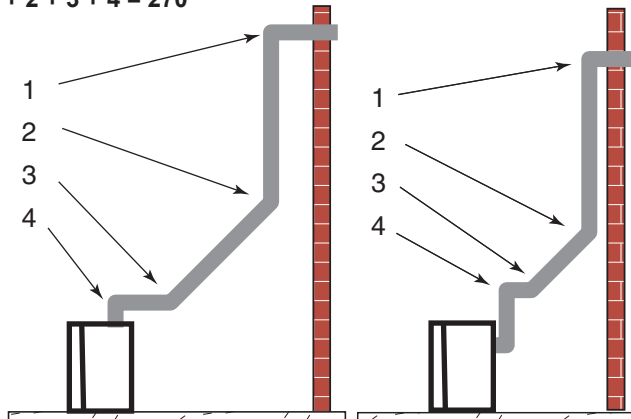

Figure 24 -
- The maximum number of elbow degrees in a system is 270°. *Figure 24*